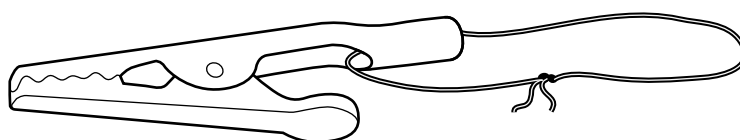

Fig. 1.2
- 2 The 20 cm length of string should be attached to the crocodile clip to make a loop, as shown in Fig. 1.2.